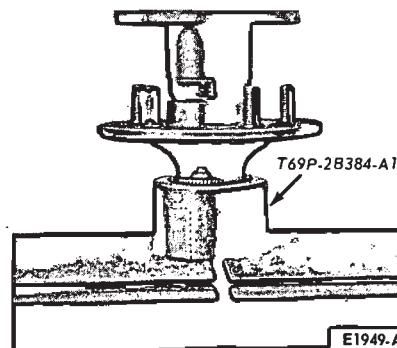

FIG. 10—Sure-Track Brake Rotor Installation
2. If the Sure-Track brake rotor (on vehicles so equipped) was removed, press the rotor on the axle shaft as shown in Fig. 10.